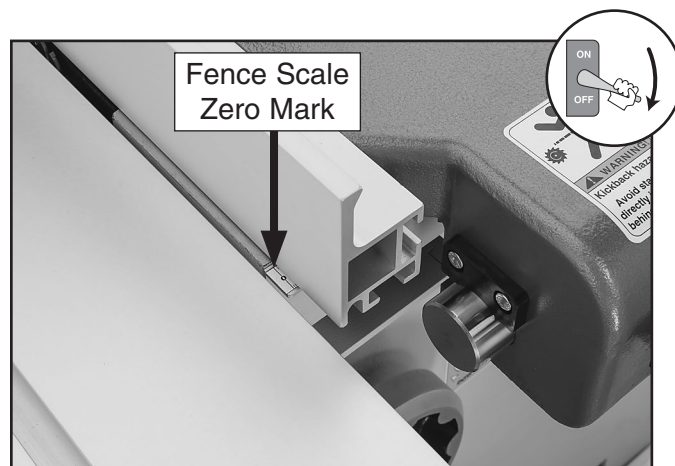

Figure 167. Rip fence scale zero mark.
4. Observe reading on scale underneath rip fence (see **Figure 167**).